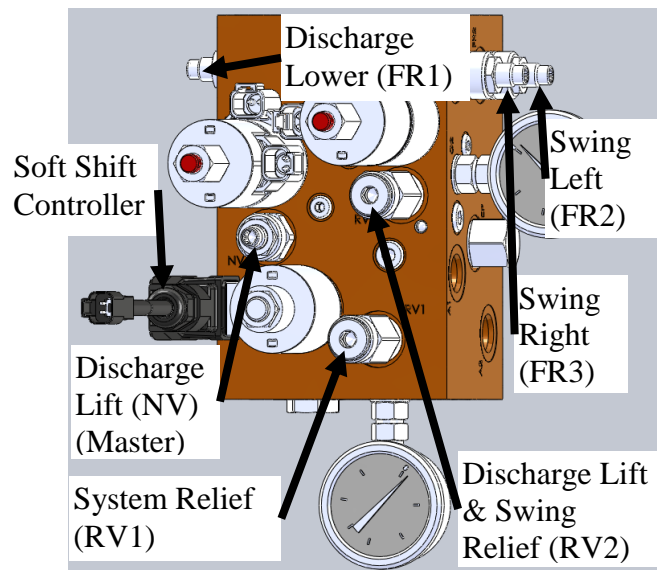

Figure 106 – Adjustment Screws and Manual Override for Discharge Cylinder Lift and Discharge Auger Swing Right.
Note: The discharge lift flow control (NV) is also the master flow control for both the discharge lift cylinder and swing motor (see Figure 106).
The manifold valve on the 6530 GM is equipped with an electronic soft shift controller (see Figures 106, 107, & 108) that slowly opens the solenoid valve controlling the hydraulic discharge auger motors eliminating the 'bangs' or hydraulic shocks associated with operating a hydraulic valve. The controller is set to jump to a preset 'step' voltage then 'ramp' up to maximum at a preset rate.